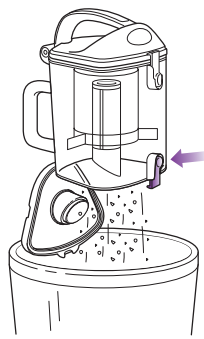

Fig. 18
- Hold the dust cup over a trash receptacle and press the bottom door release button. (Fig. 18) Tap gently to empty contents. Press the door shut again until it clicks.